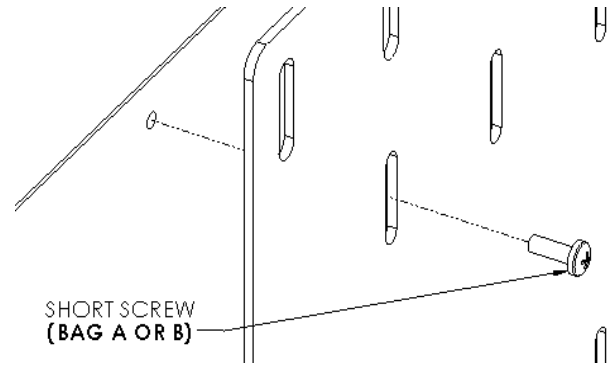
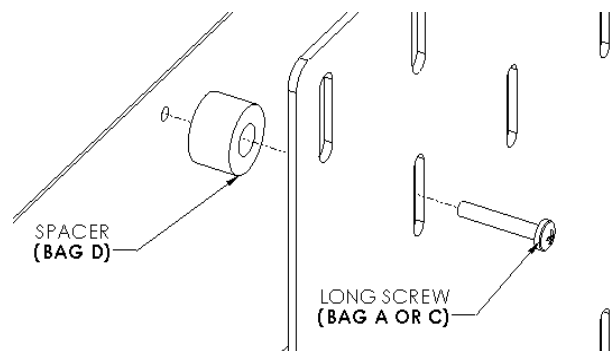

Figure 2. For a Display without a Recess or Protrusion
Figure 3. For a Display with a Recess or Protrusion
- Spacers from Bag D (see Figure 3) may be needed if mounting holes of display are recessed or if screen has a protrusion that would require the MSB-V interface to be spaced away from the back of the display.
- Select screws from Bags A, B or C (see Figure 2), or (see Figure 3) if mounting holes of display are recessed or if screen has a protrusion that would require the MSB-V interface to be spaced away from the back of the display.
2. Perform the appropriate procedure, *as described in the following sections*, to attach the MSB-V (10) to back of display.